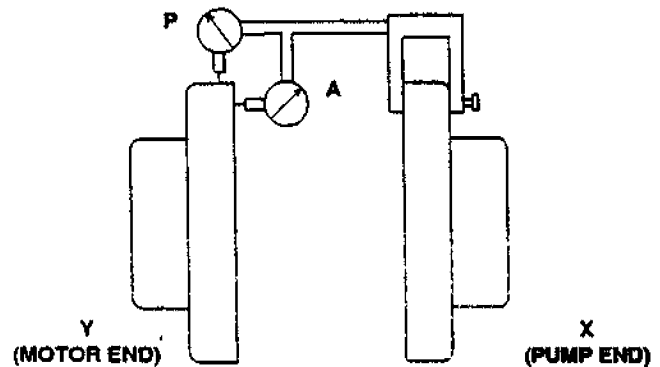

FIG. 5.
1. Mount two dial indicators on one of the coupling halves (X) so they contact the other coupling half (Y) (Fig. 5).
1. Zero indicator P at top dead center of coupling half Y (12 o'clock) (Fig. 5).